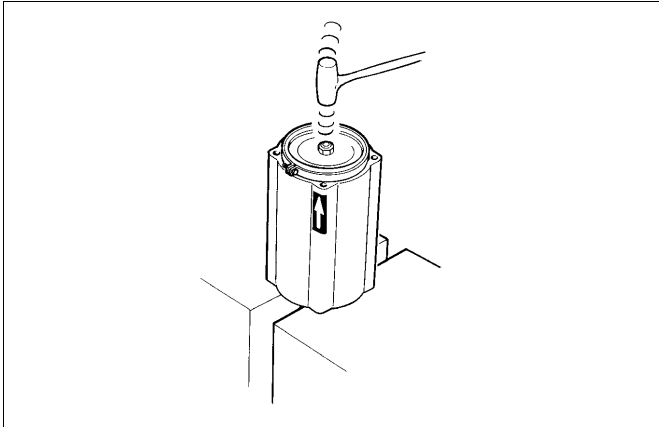

Fig. 13 Placing the piston in the cylinder
- ❑ Hammer or press the piston into the cylinder through the tie ring. Note the indicator arrow direction. See Fig. 13.
- ❑ Install new O-rings (19). **Sizes 8 and 10:** ensure that the protection bushing (12A) is in place. Replace cylinder end and install cylinder with piston. Note the location of the air supply port: it must correspond to the exhaust air port in the cylinder base. Tighten screws (31); the torque is given in Table 1.